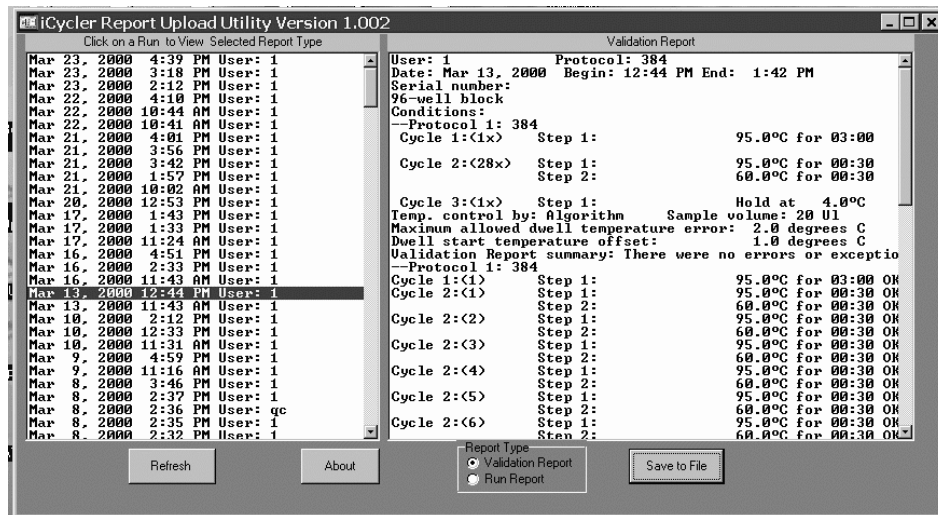

Fig. 4.6. Example Validation Report.
6. Click in the left part of the screen to select the report to display. The corresponding report is displayed in the right part of the screen. (Figure 4.6)